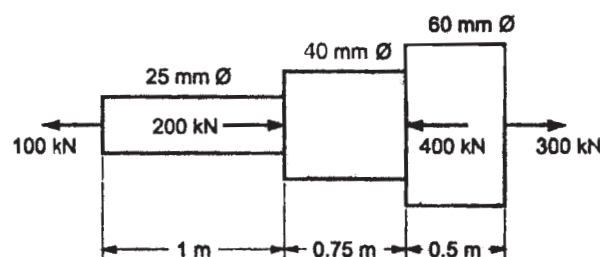

Fig. No. 5
- a) A steel bar is subjected to axial loads as shown in Fig. No. 5. Calculate deformation of the bar. Take $E = 210 \text{ GPa}$.